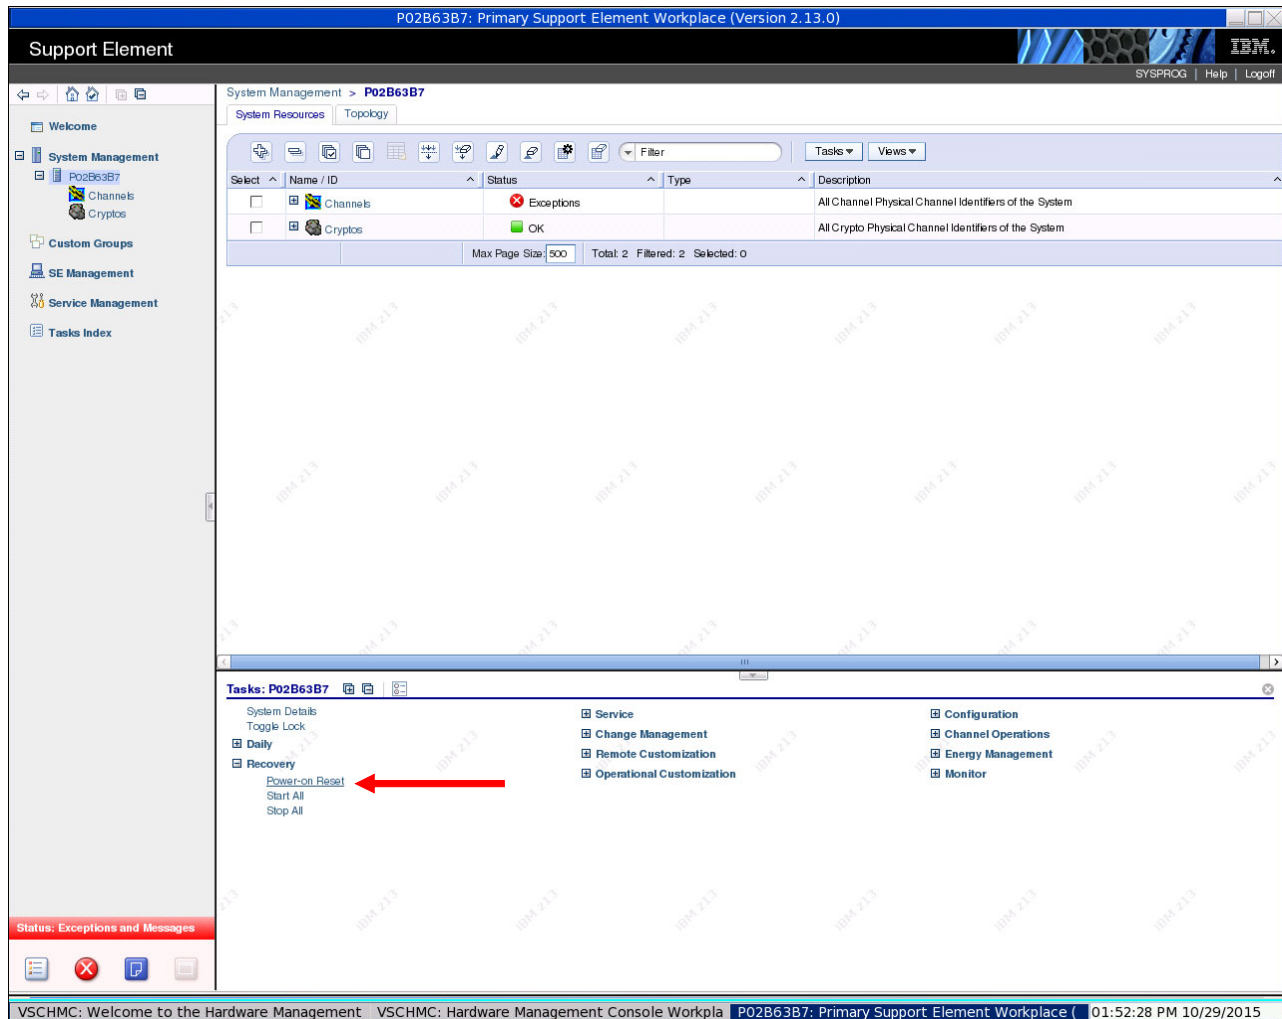

Figure 4-16 Recovery options that show Power-on Reset option
5. We select **System Management** → **P02B63B7** (our z13 server name) from the menu in the left of the window. Then, in the Tasks tab in the bottom of the window, we select **Recovery** → **Power-on Reset**, as shown in Figure 4-16.